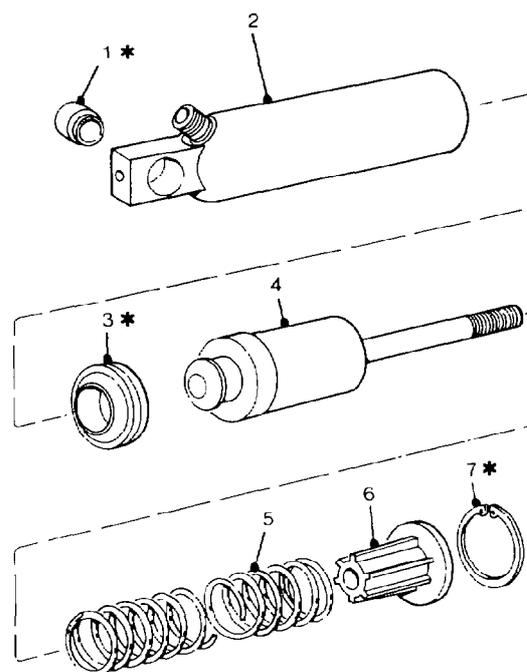

Figure 113 Engine Brake Cylinder (Knorr)
146. **Dismantling.** Dismantle the engine brake cylinder as follows (see Fig 113):
- f. Replace all components marked * in Fig 113.
147. **Assembly.** Assemble the engine brake cylinder as follows (see Fig 113):